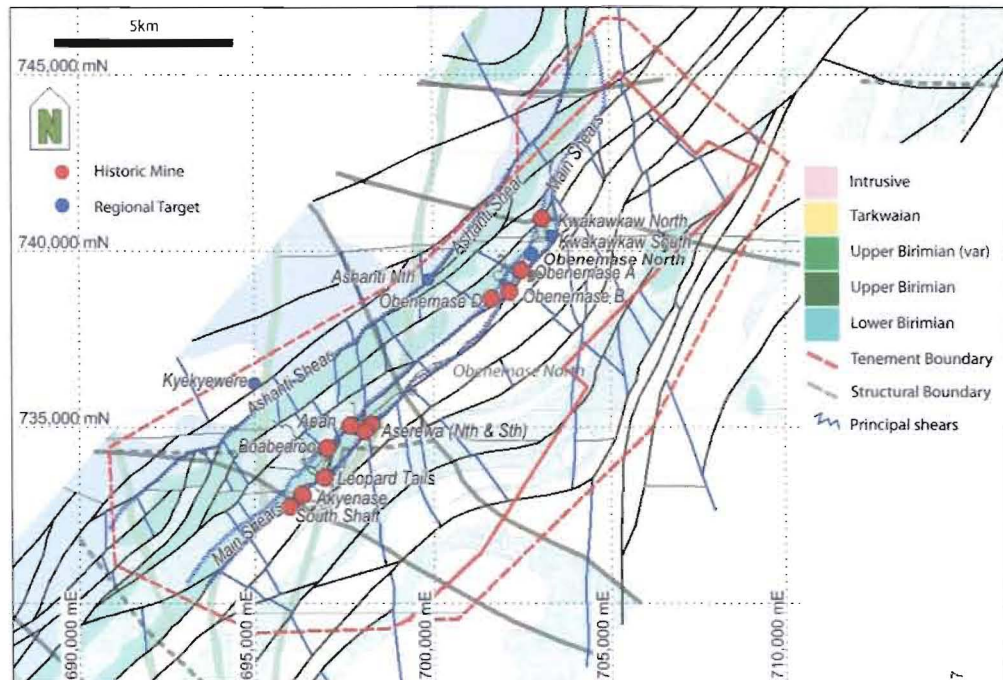
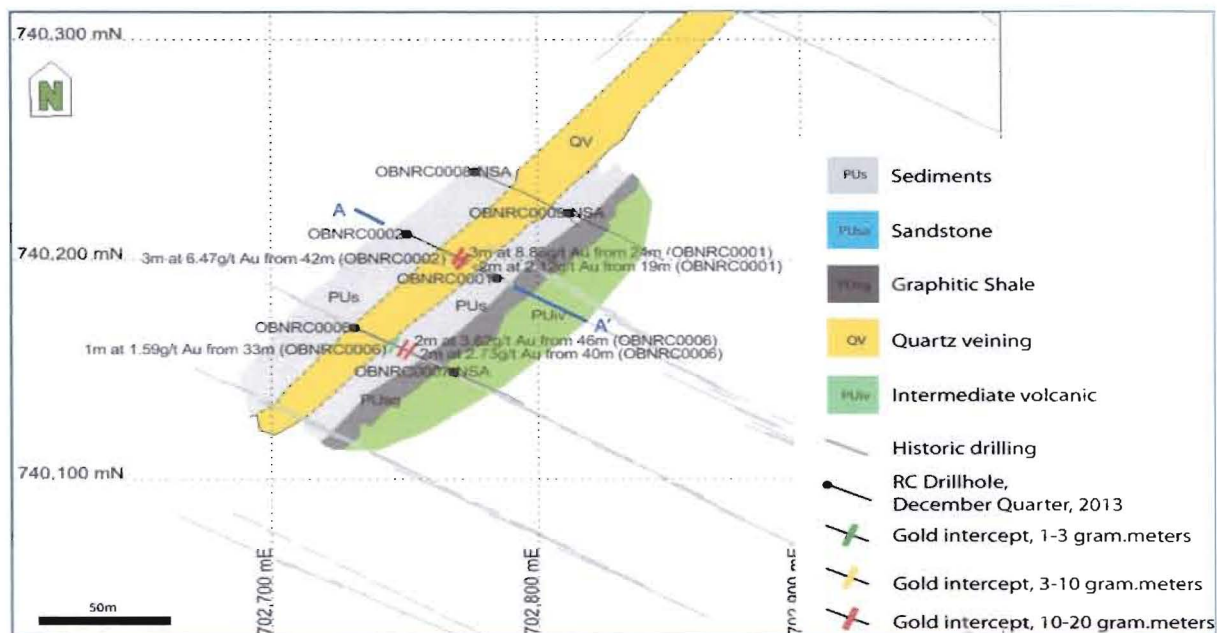

Figure 1 Prospect Locations.
Figure 7 Kwakawkaw South plan.
The Diamond Drilling (DD) program continued throughout the December Quarter. Fourteen holes were completed for 3,131m. Holes were pre-collared with RC drilling (RC). RC drilling completed 32 holes for 3,157m. Significant drilling results are summarised in Table 2 (DD) and Table 3 (RC). Prospect locations and areas discussed in the text are shown in Figure 1.
Historically, the Obenemase Deposits were extensively drilled and were mined underground and from two open pits - Obenemase B Pit to the south and Obenemase A Pit to the north (Figure 1). Historical underground mining targeted auriferous quartz reefs and some refractory sulphide-hosted gold mineralisation. Current exploration is focused on the sulphide-hosted mineralisation, which occurs adjacent to the quartz reefs or as discrete sulphidic shoots. Mineralisation is stratabound – occurring as moderately northeast plunging ore shoots within a meta-volcaniclastic siltstone. The siltstone defines the two parallel limbs of a steeply northwest-dipping, northeast plunging anticline fold. The footwall is sheared graphitic shale. Gold mineralisation is generally highest grade and thickest in areas where second order folds affect the host rocks.
Obenemase North is a drilling target north of faults encountered at the north end of the Obenemase A Lode (Figure 1). Diamond drilling during the last year has demonstrated that the faults displace, but do not terminate, the Obenemase A Lode. During December Quarter assays were returned for hole OBDD181 indicating that significant mineralisation occurs 140m north of the previously known northern limit of the Obenemase A Lode. The hole returned **6.7m at 8.31g/t Au from 286.5m** (Figure 5). The intercept is notable, as the mineralisation occurs on the south eastern boundary of a distinct banded siltstone. At Obenemase A Lode, the mineralisation occurs on the north western boundary of the same distinct siltstone unit.
Six exploration RC holes (476m) were drilled at **Kwakawkaw South** (Figure 1) to follow up previous encouraging aircore drilling results. The RC holes (Figures 7 and 8) were designed to test the oxide gold potential and the deeper sulphide gold potential. Both oxide and sulphide gold intercepts were returned (Table 3).
Kwakawkaw South is located approximately 600m north-east of the northern limit of the Obenemase A Lode Pit along the trend of the shear that controls the Obenemase A Lode mineralisation (Figure 1). The Kwakawkaw South mineralisation is hosted by a sedimentary package in the hanging wall of a graphitic shear, a structural position similar to that observed for the Obenemase A Lode. The sulphide mineralisation is characterised by the occurrence of acicular arsenopyrite. **The geology, style of mineralisation and location of the Kwakawkaw South mineralisation suggest it may represent an extension of the shear that controls the Obenemase A Lode mineralisation. Mineralisation at Kwakawkaw South is open down plunge and to the south. It warrants extensive drill testing.**
Work is currently focused on eight resources considered to have the greatest potential - Aserewa, Akyenase, Apan, Boabedroo North, Boabedroo South, Boabedroo South Extended, Kwakawkaw, Obenemase A Lode, Obenemase B Lode and Obenemase D (Figure 1).